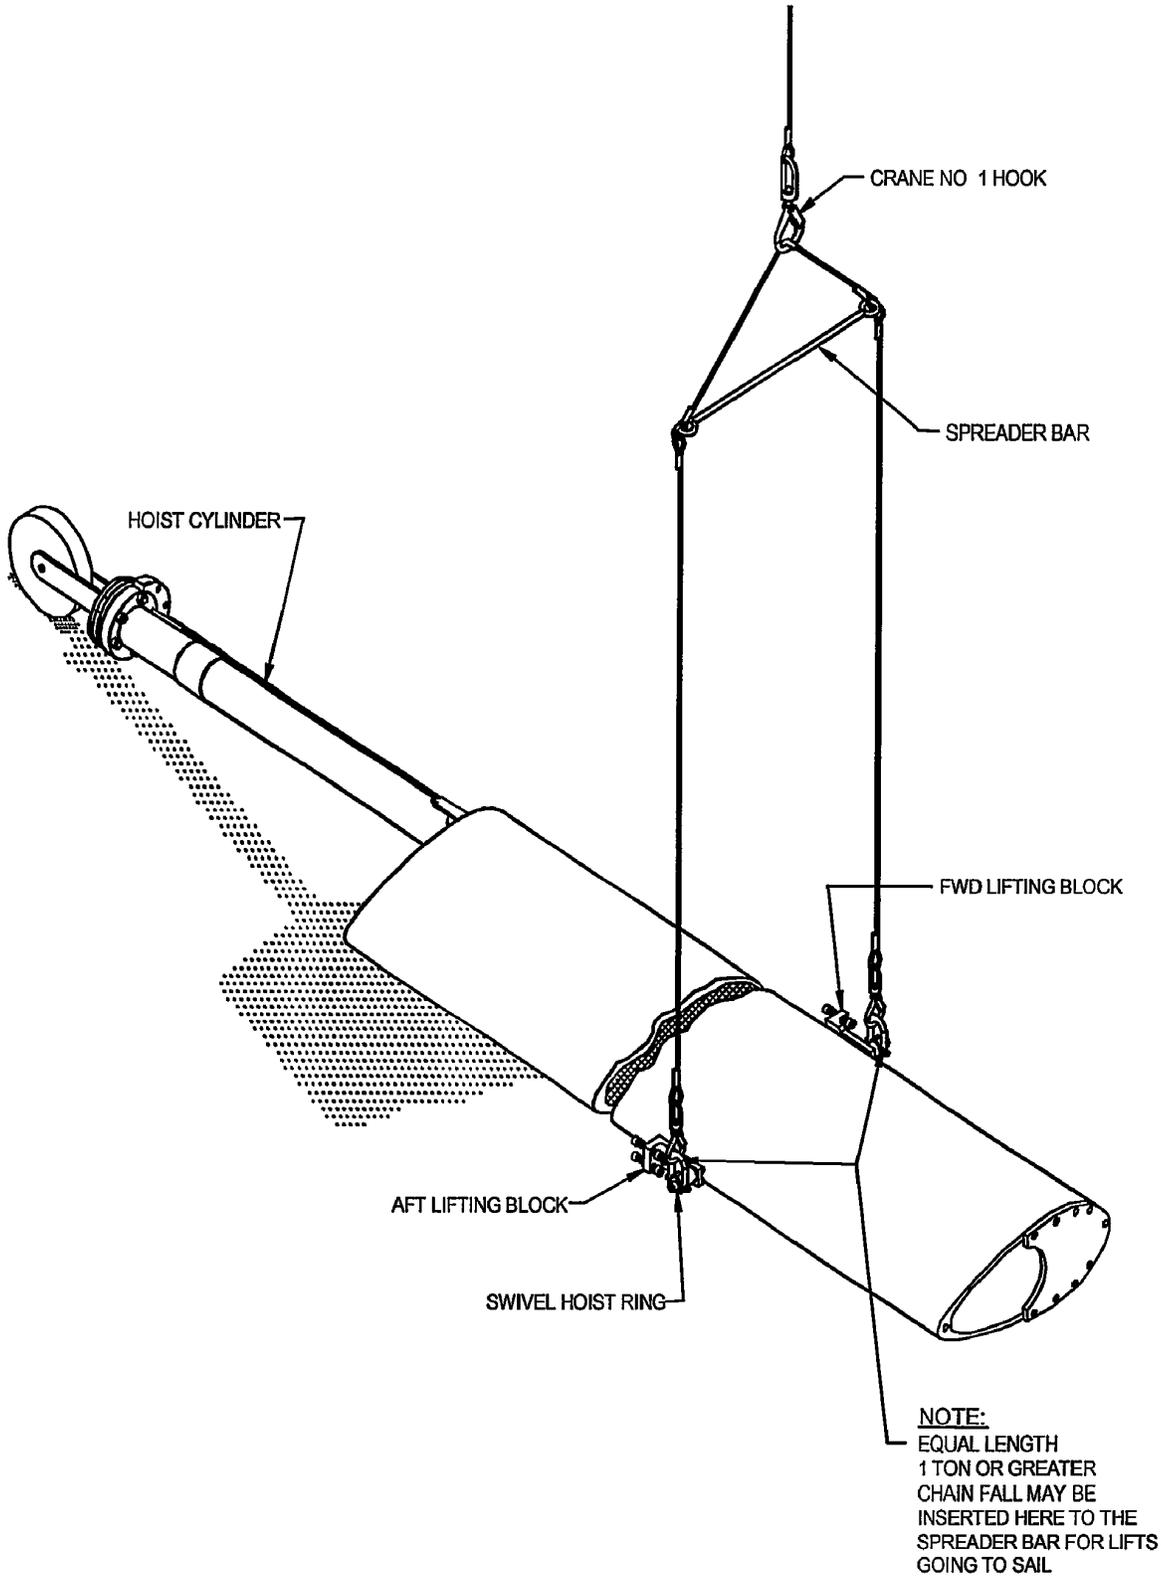

Figure 5-5 One Hook HDR and ACM Faired Mast Lifting Arrangement Horizontal Position
- e. Attach crane hook to each lifting device swivel hoist ring using a minimum 32-inch length spreader bar assembly, as shown in Figure 5-5. It is recommended that one ton or greater chain-falls be installed between the fwd and aft lifting device swivel hoist rings and spreader bar assembly. The chain-falls shall be adjusted to equal lengths